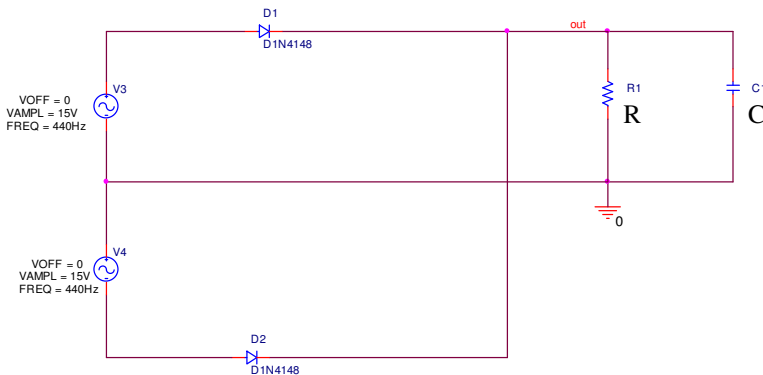

Figure 3.1. Full-Wave Diode Bridge Rectifier
3.1. Design problem: Assume that a sinusoidal signal that has amplitude of 30V and a frequency of 440 Hz is the total secondary-side voltage of a center-tapped transformer as shown in Figure 3.1. Model that transformer by simply using two VSIN sources in series with ground in between; each VSIN source has amplitude of 15V. Using D1N4148 diodes, design a **full-wave rectifier** and filter, to obtain a (very crude) “DC voltage” of “15V minus one diode voltage” with ripples that are no bigger than 5% (ripples’ peak-to-peak amplitude is considered with respect to the peak capacitor’s voltage). Enter your initial PSPICE schematic and results to receive credit for this part of the homework. Formulas are required to show how the peak-to-peak ripple is related to your selected RC time constant. Use Transient with a run time of 10ms.